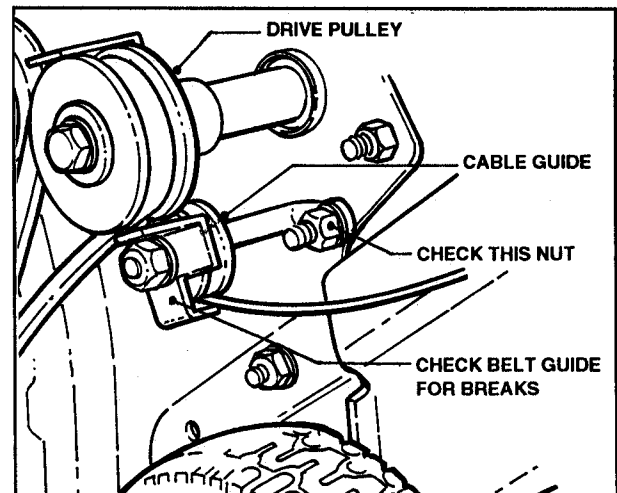

FIGURE 8.5
- (1) Remove Belt Guard.
- (2) Check nut at base of Pulley Guide for looseness. (If nut is loose, then Clutch/ Brake Cable will not be fully operative). Tighten nut if required. See Figure 8.5.
- (3) Check Pulley Guide and Belt Guide for breaks. Replace either if required.